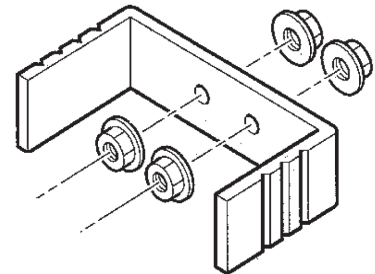

Figure 2
- Use only supplied mounting hardware. Use of other mounting bolts, brackets, etc. can result in damage and void warranty (Figure 2).